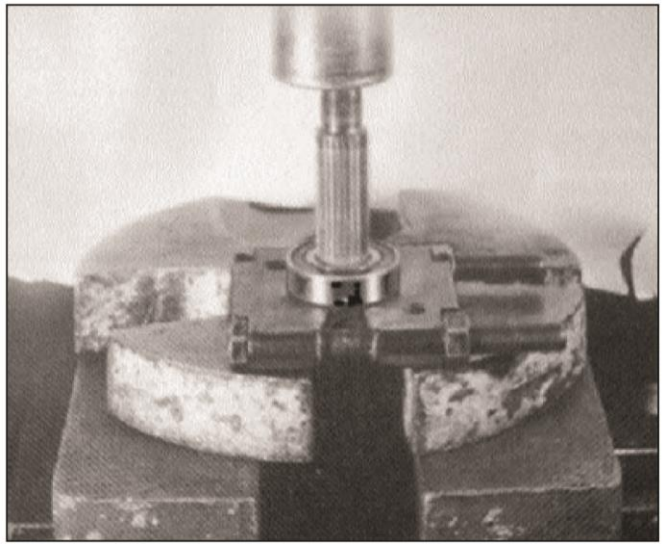

Figure 7-7
4. Remove inner snap ring (25). Use care to not damage bearing surfaces. See Figure 7-7.